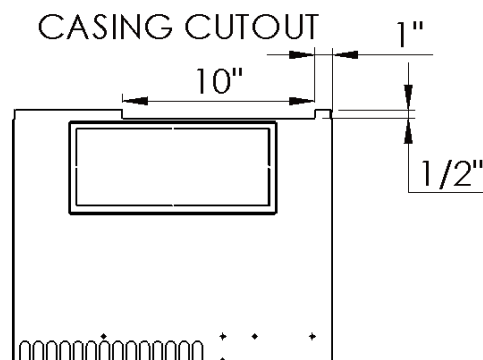

Figure 3
4. With back cover off mark 1/2" x 10" cut out as shown fig 3.